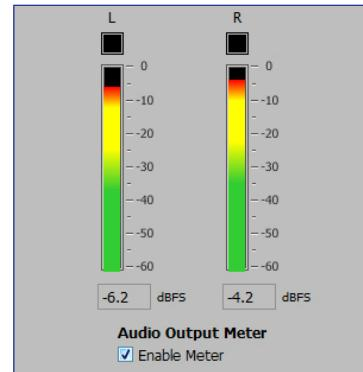

Figure 36. Audio Output Meter
4. To enable the meters, select the **Enable Meter** checkbox below the meters (see figure 36).